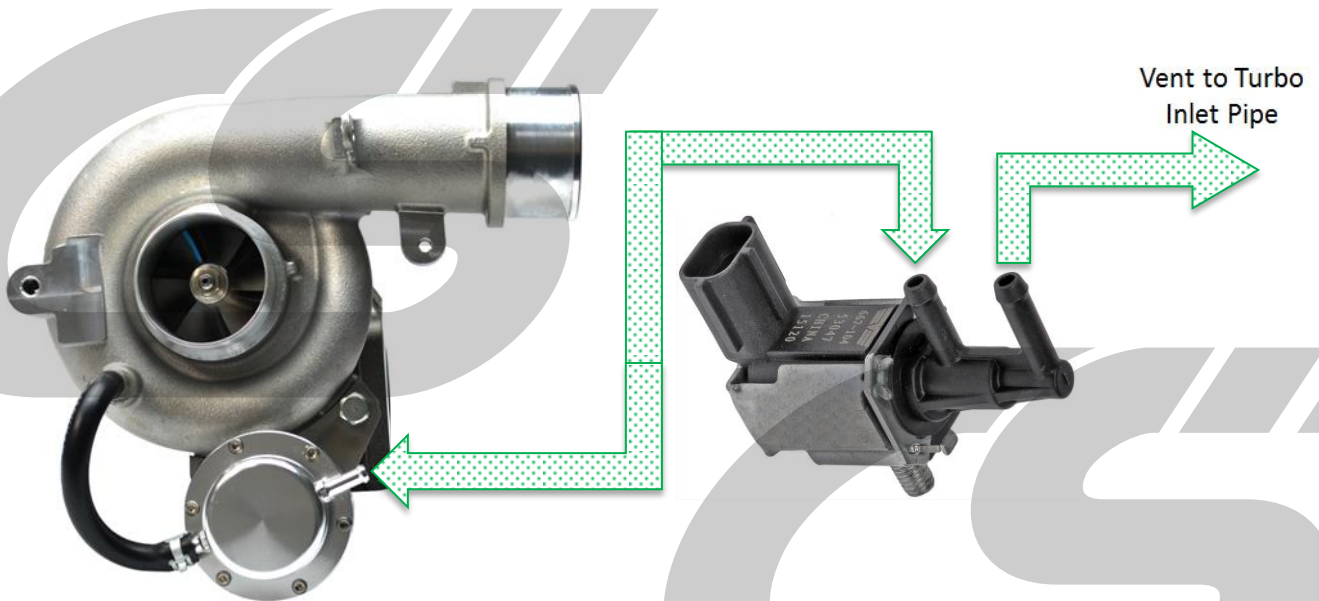

Figure 12a
- b) Route the two EBCS hoses to the OEM locations & secure with OEM clamps. Routing explained below in **Figure 12a** for clarity.